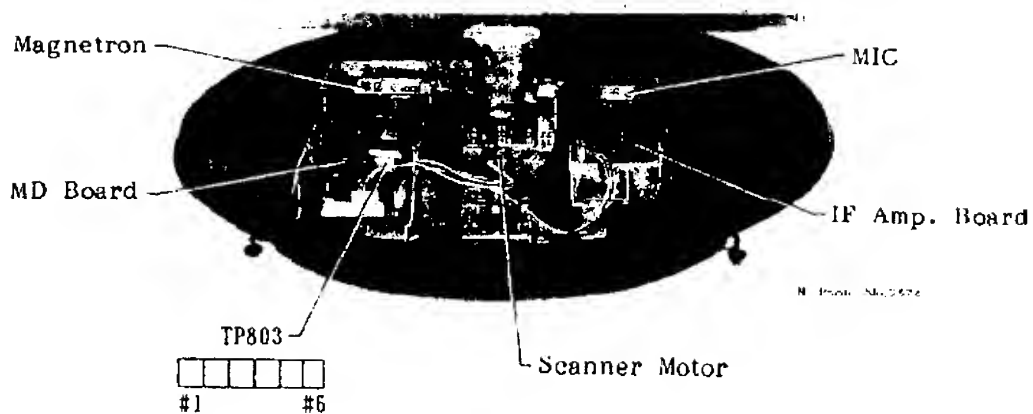

Fig.53 Scanner Unit Inside View
2. Connect a multimeter, set to 10VDC range, to pin #5(+) and #6(-) of TP803 on the MD-7918 modulator board. See Fig.53.